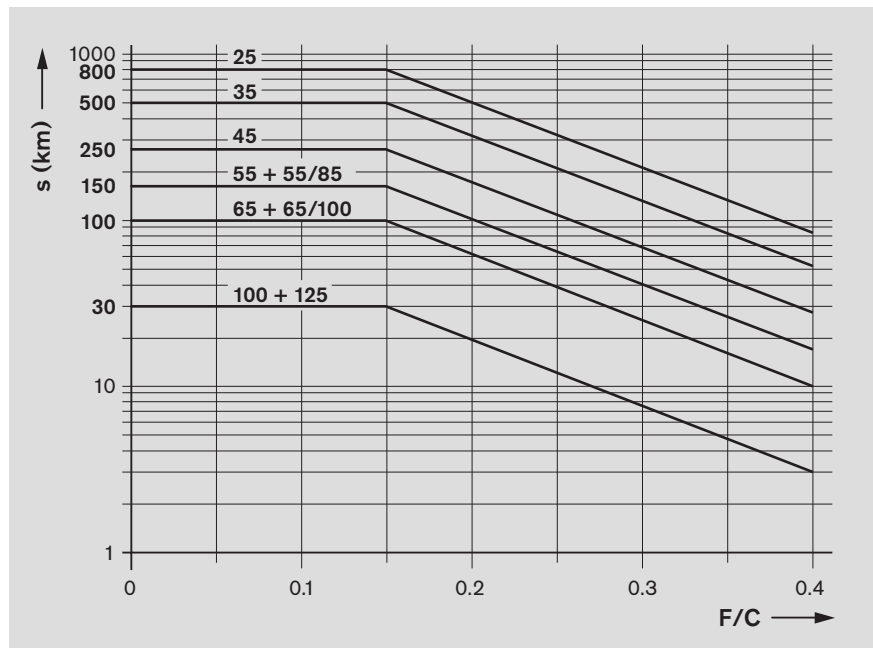

Fig. 5
- When the travel distance shown as the relubrication interval in Fig. 5 has been reached, apply the relubrication quantity as specified in Table 3.
- When the travel distance shown as the relubrication interval in Fig. 5 has been reached, apply the relubrication quantity as specified in Table 4.